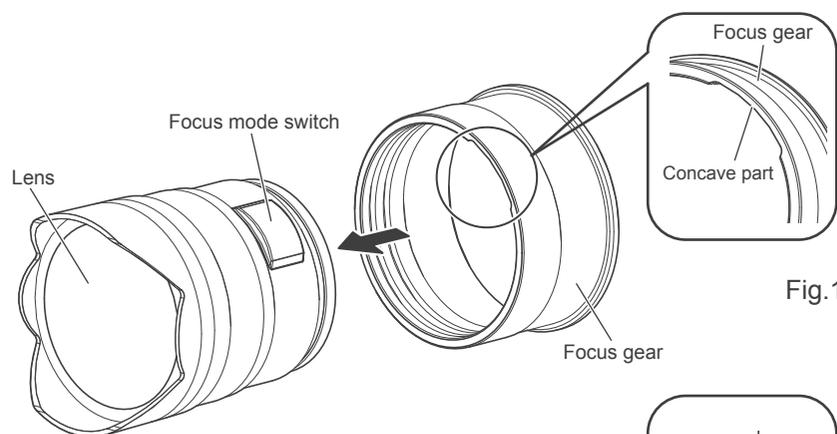

Fig.1
- 2 Align the concave part of the gear with the focus mode switch on the lens, and then attach the gear to the lens in parallel alignment with the lens as shown in Fig.1 by sliding the gear forward as far as it goes**